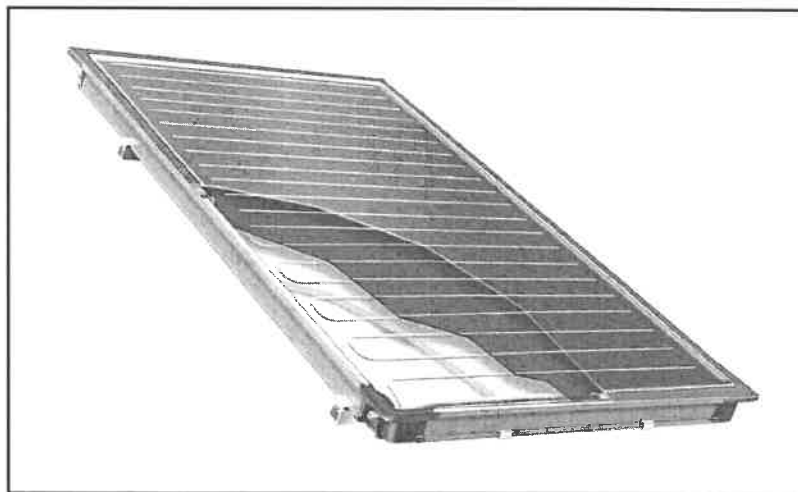

FIGURE 4.6
- 4.6 FIGURE 4.6 below shows a solar heating unit. (2)